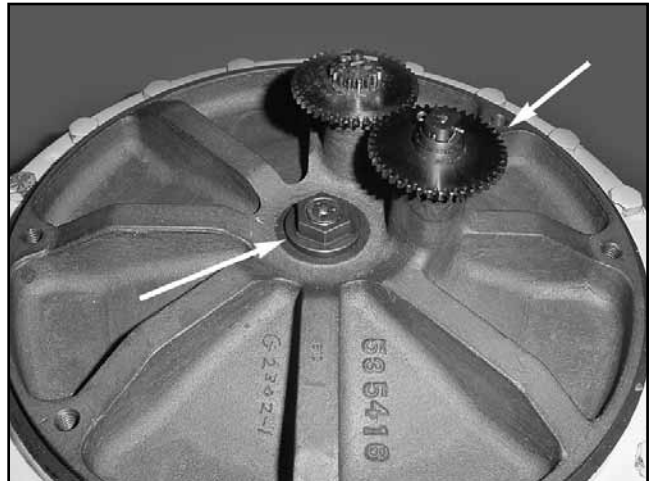
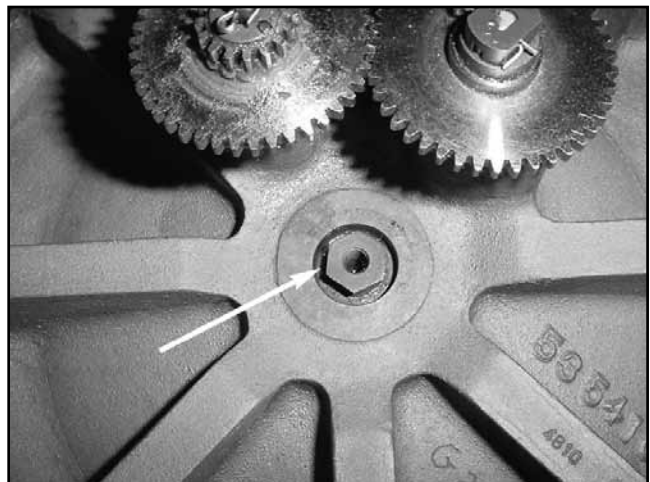

**Figure 37**
**Figure 37A**
1. Figure 37 shows the meter in an assembled state. The arrows point to two 5/16" bolts. Remove these two 5/16" bolts using a 1/2" wrench. When the bolts are removed the meter adapter can be removed (Figure 37A) allowing access to the rotor adjustment screw.